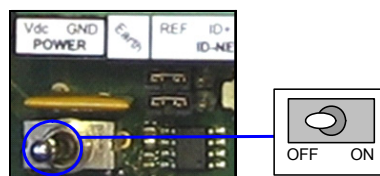

Figure 3 - Power Switch ON/OFF Positions
The power switch (see Figure 3) switches the power supply ON or OFF for both the SC4000 and the connected reading device.
- 2) Verify that the SC4000 power switch is off (see Figure 3).